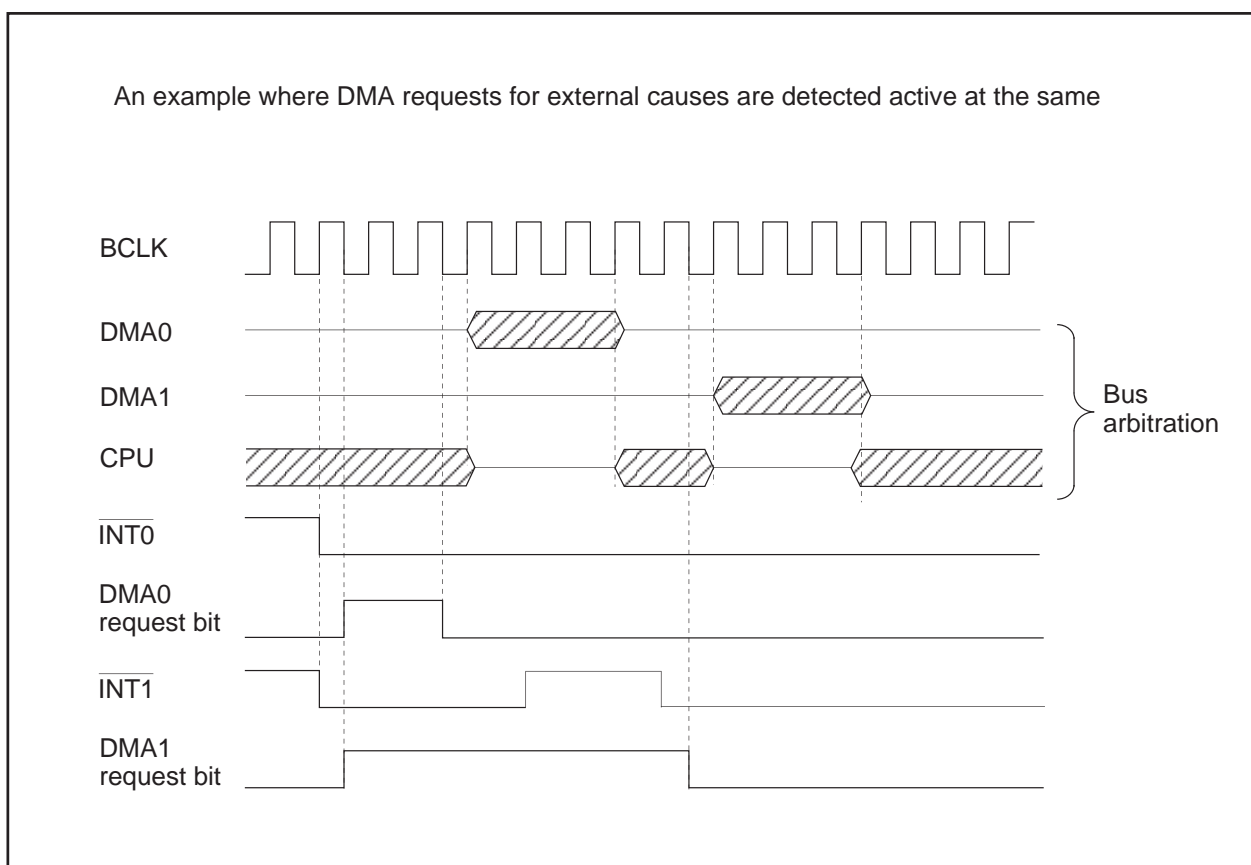

Figure 2.9.6. DMA Transfer by External Factors
If both DMA0 and DMA1 are enabled and DMA transfer request signals from DMA0 and DMA1 are detected active in the same sampling period (one period from a falling edge to the next falling edge of BCLK), the DMAS bit on each channel is set to “1” (DMA requested) at the same time. In this case, the DMA requests are arbitrated according to the channel priority, DMA0 > DMA1. The following describes DMAC operation when DMA0 and DMA1 requests are detected active in the same sampling period. Figure 2.9.6 shows an example of DMA transfer effected by external factors.
In addition, DMA requests cannot be counted up since each channel has one DMAS bit. Therefore, when DMA requests, as DMA1 in Figure 2.9.6, occurs more than one time, the DMAS bit is set to “0” as soon as getting the bus arbitration. The bus arbitration is returned to the CPU when one transfer is completed. Refer to “(7) Hold Signal in 2.4.2 Bus Control” for details about bus arbitration between the CPU and DMA.